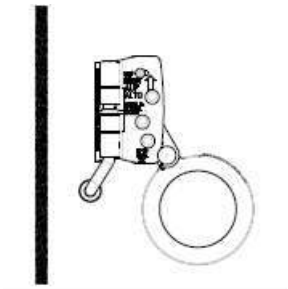

Figure 5
- Connect the Snap Hook (A) on the Vertical Lifeline (B) to a rigid Anchorage Point (C) that meets the requirements on page 2 "Equipment Requirements"
- Attach the Rope Grab (D) to the Vertical Lifeline (B).
- Ensure the rope grab is in the "UP" position as indicated on the product. The "UP" end of the rope grab must be oriented towards the anchorage. (See Figure 5)